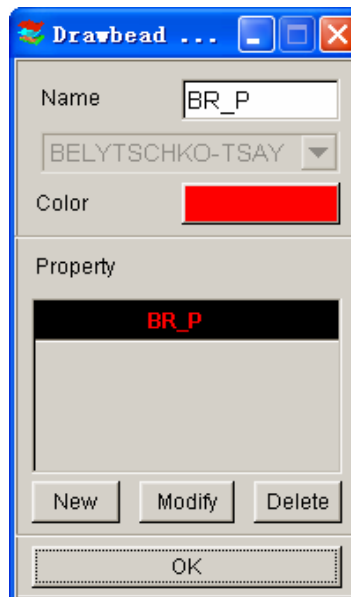

Figure 9.4.5 The Drawbead Property dialog window.
2. Select the property color from the DRAWBEAD PROPERTY dialog window as shown in Figure 9.4.5
The DRAWBEAD PROPERTY dialog window is shown in Figure 9.4.5. This function enables the user to create or edit drawbead properties. The functions of the buttons (NEW, MODIFY, DELETE) in this dialog window are similar to those described in the MATERIAL and PROPERTY sections (9.6 and 9.7). The table of DRAWBEAD PROPERTIES is shown in Figure 9.4.6.